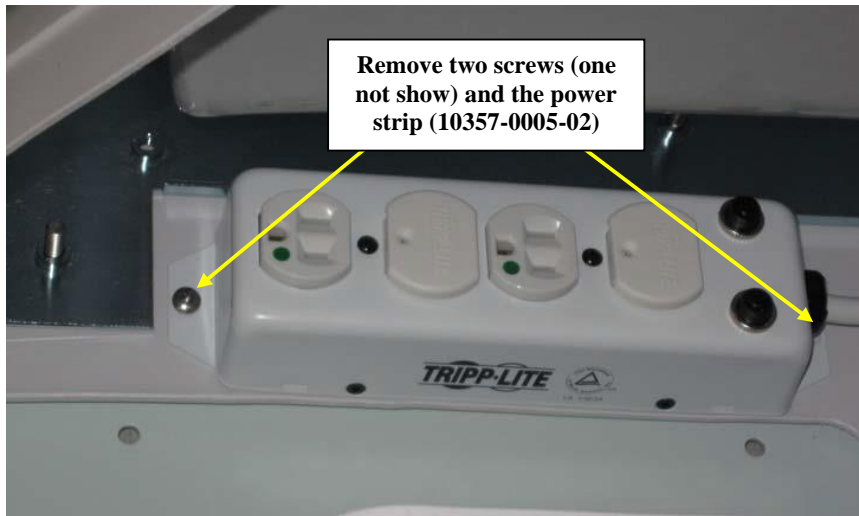

Figure 3
- 1.2.4. From 2CP cart base (40002-2064-01), remove the (2) screws (20082-0014-01), (2) lock-washers (20002-1032-01) and (2) nuts (20003-1024-01), as shown in Figure 3, to detach the power strip (10357-0005-01). Remove the power strip (10357-0005-01) from the base (discard the power strip). Keep the hardware for later use.